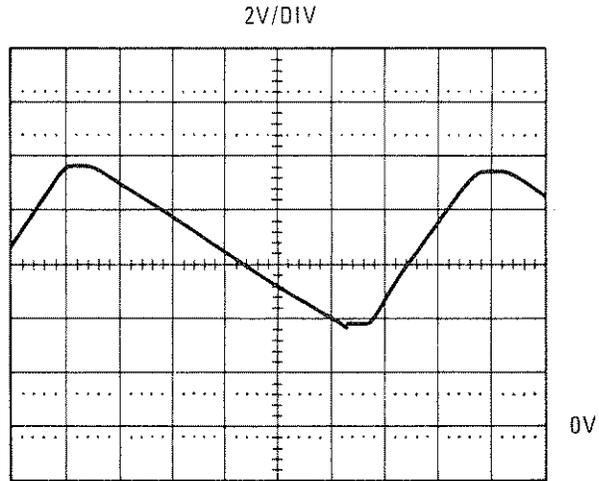

Figure 8-44. YO Drive V (A6TP14)
1. Check the YO DRIVE V (TP14) for the waveform shown in Figure 8-44. If this waveform is correct, troubleshooting should continue with the YO drive circuit section below.
3. Check TP16. This voltage should track the YO DRIVE V (Figure 8-44). If it does not, troubleshoot A6U24, A6Q3, A6Q2, chassis R1 and R2, and chassis Q1.